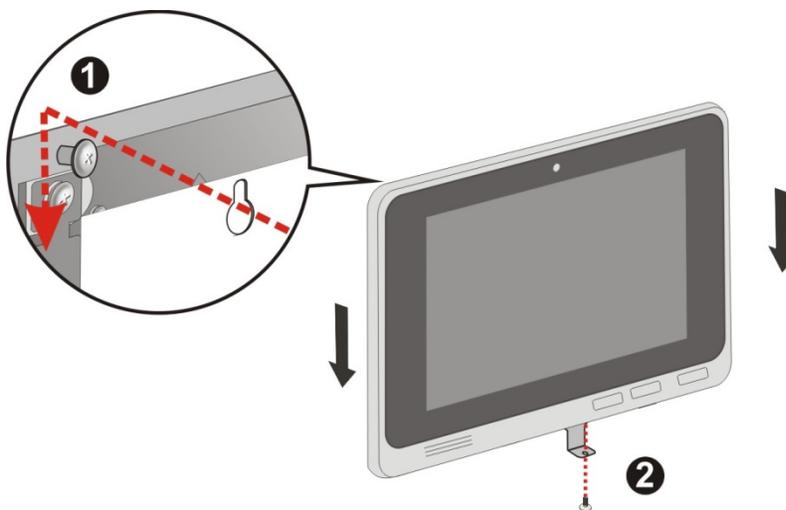

Figure 3-6: Mounting Panel PC
Step 5: Carefully attach the panel PC to the mounting screws and gently pull the panel PC downwards until the panel PC rests securely on screws. Ensure that all four of the slotted holes fit snugly into their respective mounting screws (Figure 3-6 ①).
Step 6: Secure the panel PC by installing the retention screw (M3*4) came with the panel PC into the screw hole on the bottom of the bracket (Figure 3-6 ②).